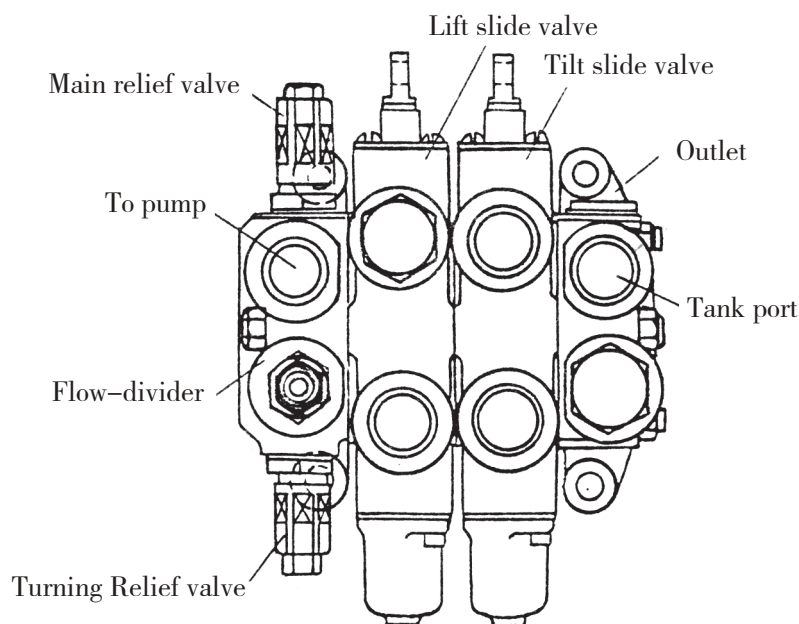

Fig.7.1 Control valve
7.3 Control valve(See fig.7-1)